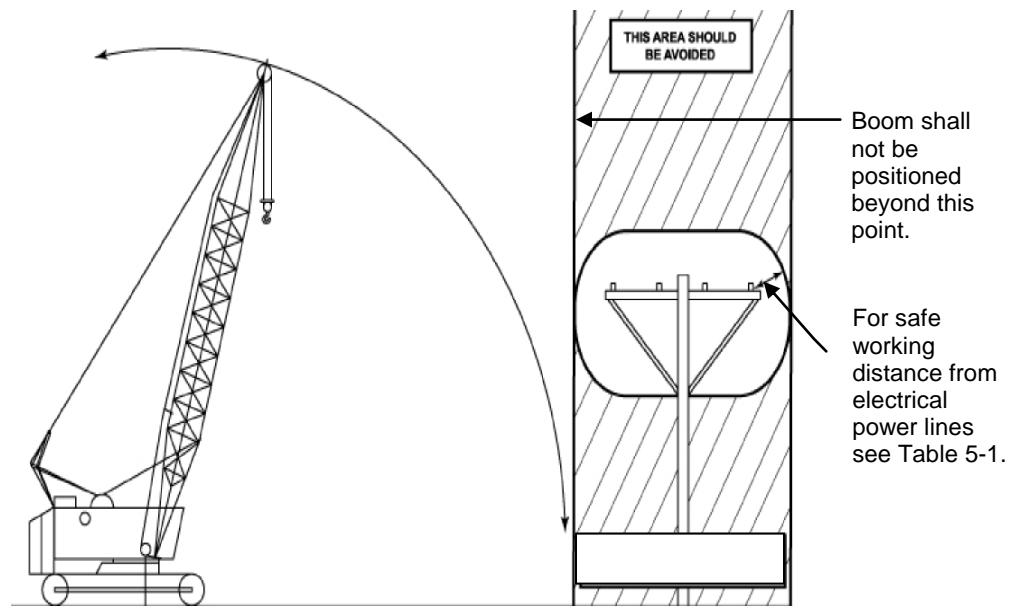

Fig. 5-2. Danger Zone for Cranes and Lifted Loads Operating in the Vicinity of Overhead Power Lines.
1. Perform the work so there is no possibility of the crane, load line, or load becoming a conductive path (Fig. 5-2, "Danger Zone for Cranes and Lifted Loads Operating in the Vicinity of Power Lines").